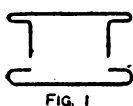
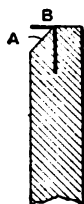

FIG. 1
FIG. 2
division would be obtained as follows (Fig. 1). Draw the triangle ABC; upon the side from which the divisions are required draw the square CDEA. Trisect line ED by the usual method for dividing a line into any number of equal parts, and draw division lines. Turn down CD into line with AC, bisect the distance from G to the first division, and describe a semicircle cutting CD in H; from C with radius CH describe the arc HI, and a vertical from I will be the first boundary. Bisect the distance from G to the second division, describe a semicircle cutting CD in J, describe the arc JK, and a vertical from K will be the other boundary line required. The principles involved in this solution are, first, that the areas of similar triangles vary as the squares of like sides; and second, the construction of a square equal in area to a given parallelogram, which is shown in its simplest form in Fig. 2.
**Binding Loose Book Parts, etc.**—The binder here illustrated affords a means of binding together parts of periodicals, etc., at a cost per volume of about a farthing. It consists of a backboard having two wire staples, as shown by Fig. 1, top and bottom, to which the papers are laced with twine. The backboard is a piece of wood of the same length as the papers, and the width is equal to the bulk of papers when pressed together by the hand. On the inside face is a slight bevel A (Fig. 2) at each end for passing the twine between the board and the staples B, and on the outside the sharp edges, lengthways, are rounded off. The staples may be made of stout hairpins twisted into a chain ring, the length of which, when completed, should be  $\frac{1}{2}$  in. less than the width of the board, and about  $\frac{1}{4}$  in. wide, the free ends being turned up, as the staple lies flat, at right angles, at about  $\frac{1}{4}$  in. from the bend, and then driven into the wood at each end; the long side is flush with the inside face of the board, leaving a narrow opening. The book parts, papers, etc., may be bound singly as they come to hand. First tie the twine to one staple, and placing a paper with the back of the fold to the board, pass the twine down
edge of each plate. See whether the spaces between the plates are regular, that is, with the widest space between the back and second plate, and the width diminishing as the plates get shorter. If not, they must be made so in setting up the spring, otherwise the strains on the plates will be unequal. Next make a dot-punch mark on each plate, so as to get the plates in their right places, and note that a chalk mark on the dotted ends while working at the spring will save looking for the dot. Next set up the spring, taking the back plate first. If it is fairly regular, the sweep of the plate can be marked on the fitting plate, and a mark made 1½ in. above each eye will be all that is necessary. Next heat the spring plate black hot, taking care not to overheat it, or it will have to be hardened and tempered again. Next place the plate across the vice, and with a few blows with the hammer, compass the plate, till it touches the marks referred to. To find whether one half has got more compass than the other, a 2-ft. iron square is handy. Place one end against the centre hole, and the other along the top of the spring plate, and measure from the square to the spring plate, as shown at A (Fig. 1). Having got the back plate true and straight by a few blows on the edge, if necessary take the plates in turn and fit them, making each plate come up to the marks on the hoop iron B, as shown by Fig. 2. The spring is set up 1½ in. instead of 2 in., because when a spring is set up it is generally stiffer than it was before, and when it gets the weight on it again it will not go down so much. Therefore the carriage is sometimes higher than necessary, and requires swaging down; or the spring must be taken apart, and some of the compass taken out of it.